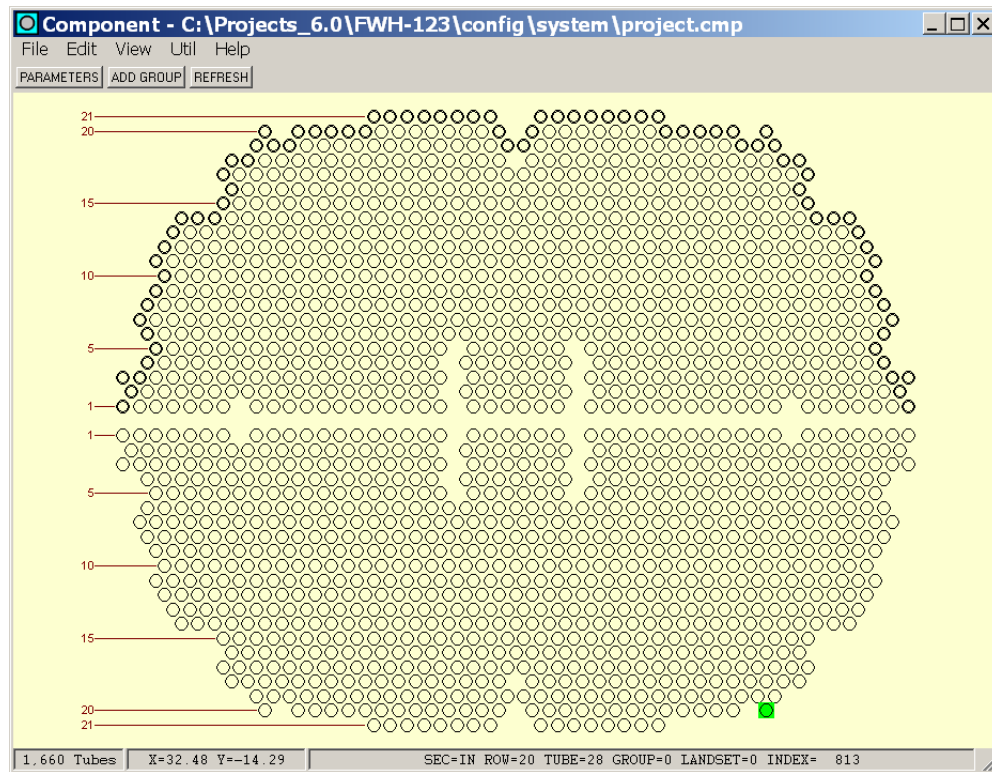

Figure 12. Example of Periphery Tubes Identified on a Tubesheet Map
- o **Edit | Set Periph Tubes** provides the user a method of identifying the periphery tubes of a tubesheet map. Depending on the tubesheet map and component, periphery tubes may differ from user to user. For example, one user may consider the periphery tubes for a typical feedwater heater to be only the outer tubes around the whole tube bundle. Another user may consider the periphery tubes to be the outer tubes around each pass (inlet & outlet) of the tube bundle. Still, others may consider the periphery tubes to be more than just one tube in from the perimeter of the tube bundle. This option was included so that each user could make his/her own determination of what constitutes the periphery tubes for a given tubesheet map on a case-by-case basis. To use this function, first select all the desired tubes by holding down the Shift key on the keyboard and clicking each tube to be set as a periphery tube. Once all desired tubes are selected, select **Edit | Set Periph Tubes**. The selected tubes will now be displayed as darker or bold circles as shown in Figure 12. The bold circles are for display only and do not print out in either MakeComp or DBMS. Identifying the periphery tubes is not a requirement of tubesheet map design, but rather an option. If you are using CoreStar's DBMS (database management system) software, the periphery tubes will be identified in the *Tubes* table once the component file has been uploaded to a database. In DBMS, there is an alternative method for identifying special groups or sets of tubes. For more information about the DBMS software, please see the *EddyVISION32™ DBMS User Manual*.